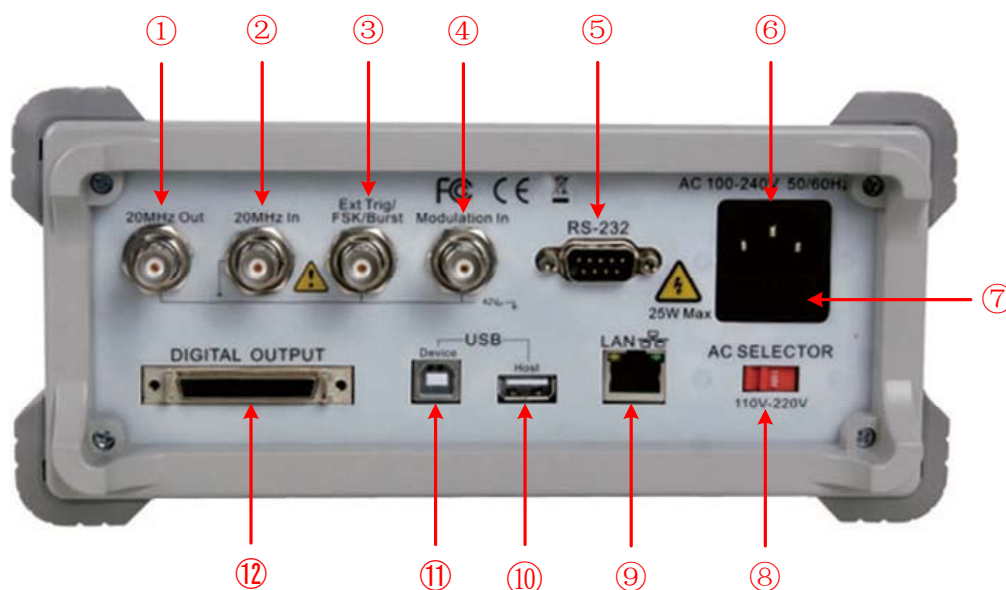

Figure 4-2 Rear panel overview
AG4151 adopt 110V/220V AC power source. Users should regulate the voltage scale of the **Power Switch** according to the standards in their own country (see *Figure 4-2*) at the rear panel and use an appropriate fuse.
- (1) Turn off the power button at the front panel and remove the power cord.
- (2) Check if the fuse installed before leaving factory (250 V, F2AL) can match with the selected voltage scale; if not, pry the cover open using a straight screwdriver (see ⑦ in *Figure 4-2*), change the fuse.
- (3) Regulate the **Power Switch** to the desired voltage scale.